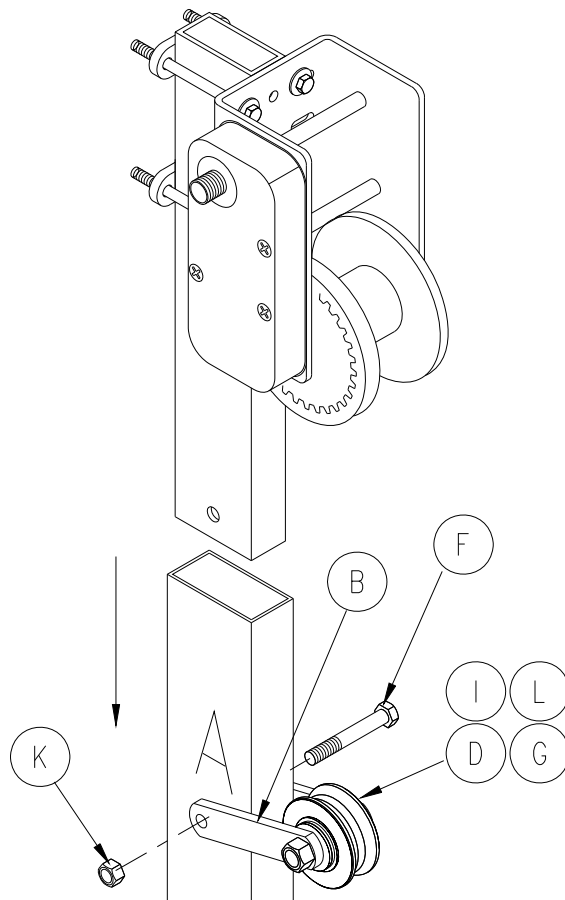

Figure 2-3.
3. Refer to figure 2-3. Install winch and extension tube assembly on the lift. Insert the extension tube into the top of the ‘A’ leg.
4. Refer to figure 2-3. Attach the cable sheave assembly and the winch assembly to the ‘A’ leg. Use the 1/2-13 x 3-1/2 HHCS bolt (F) and 1/2-13 hex lock nut (K).